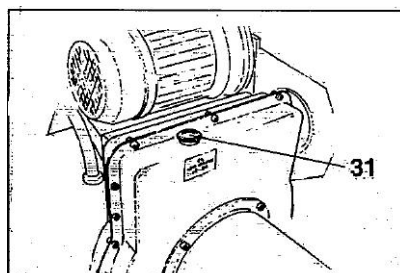

Fig.8.4
- 4) From time to time check the oil level in the gear unit which, when the tool carrier bracket is completely lowered at end travel, should not show the sight glass on the gear casing as completely empty. If necessary top up with Esso Spartan EP 320 or similar oil (eg, Agip F1 REP 237, BP GRX P 320, Chevron Gear Compound 320, Mobil Gear 632, Shell Omaia Oil 320, Castrol Alpha SP 320). Remove the cap (31, Fig.8.4), put in oil and lock the cap again.